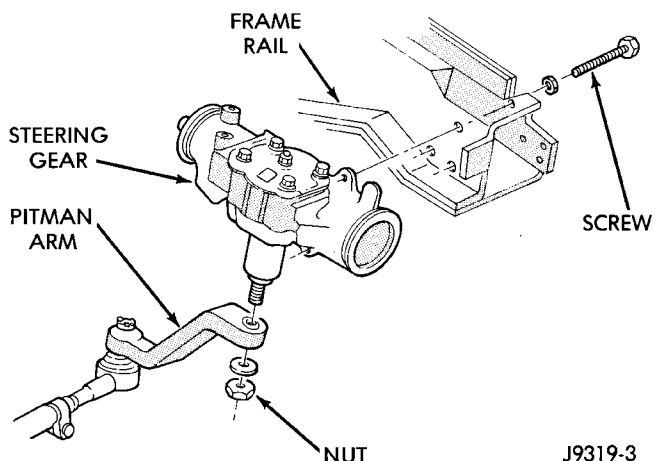

Fig. 4 Steering Gear Mounting
(5) Remove the steering gear retaining bolts and nuts. Remove the steering gear from the vehicle (Fig. 4).